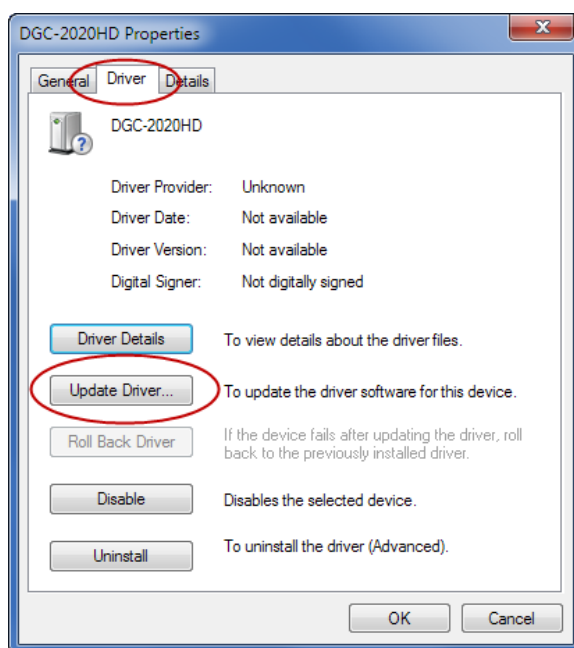

Figure 33. DGC-2020HD Properties
Step 3. In the Properties windows, select the Driver tab and click Update Driver. See Figure 33.